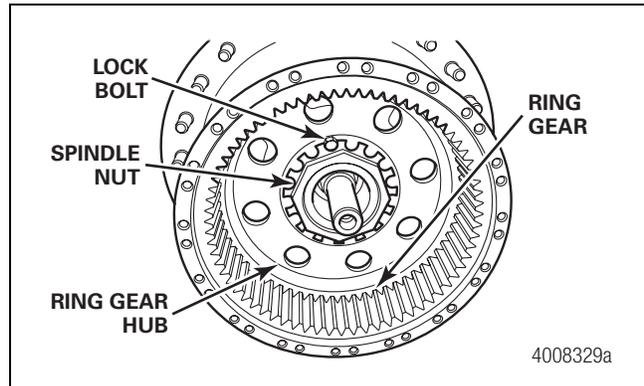

Figure 4.4
5. Remove the ring gear assembly from the spindle. Figure 4.4.